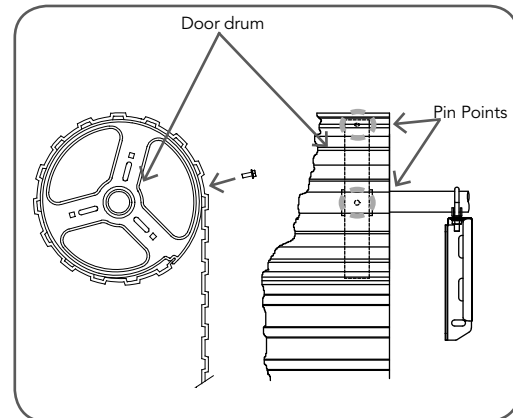

fig 07
- b. Mark drill holes at both ends of the drum (**Fig. 07**).